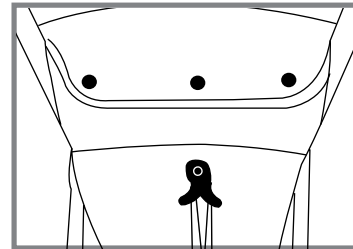

Fig. 11B
18. Snap the three back buttons located on the back of the seat, as shown in Fig. 11B.